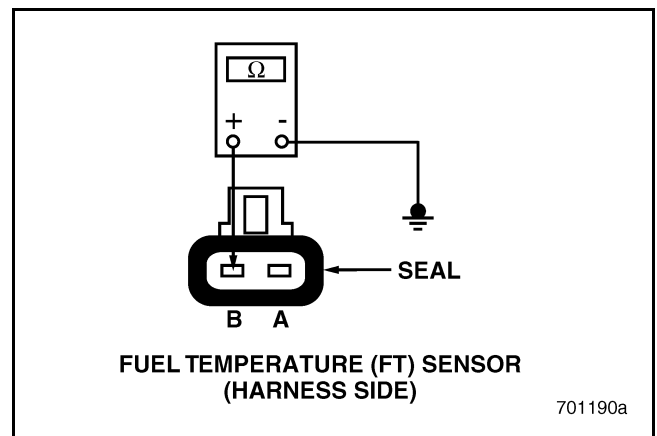

Figure 67
4. Check for continuity between pin B of the FT Sensor harness connector and a good ground (see Figure 67).